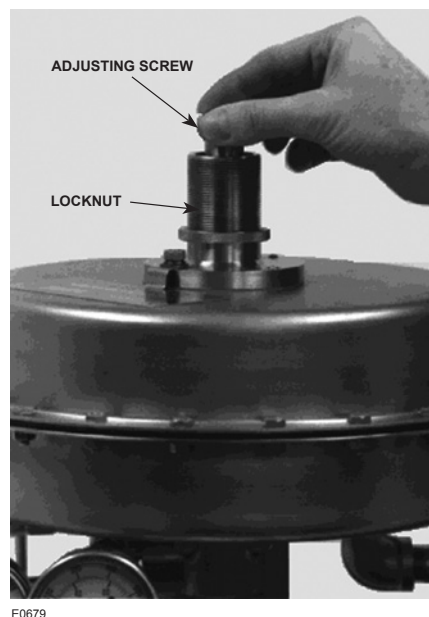

Figure 7. Changing the Pad Setpoint
2. Loosen the locknut (See Figure 7), but maintain its position in relation to the adjusting coupling. Doing so leaves the depad setpoint unchanged.
5. Increase the pad setpoint by turning the adjusting screw clockwise. (Turning the screw counterclockwise decreases the setpoint). See Figure 7.